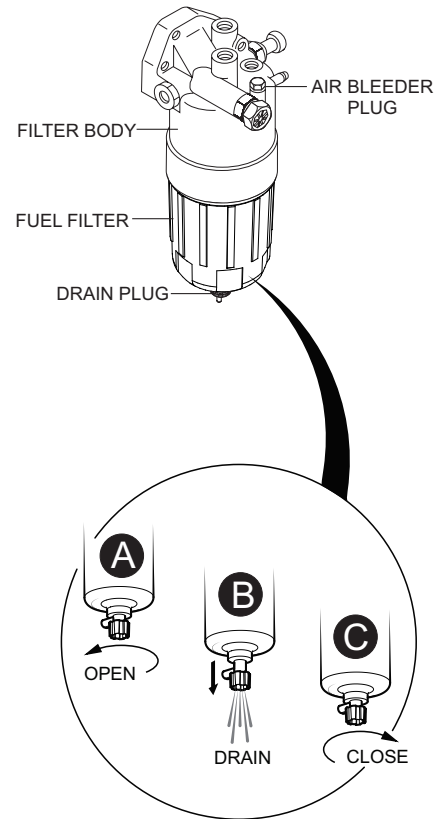

Figure 72. Draining The Fuel Filter
1. Loosen the **air bleeder plug** (Figure 72) on the fuel filter body.